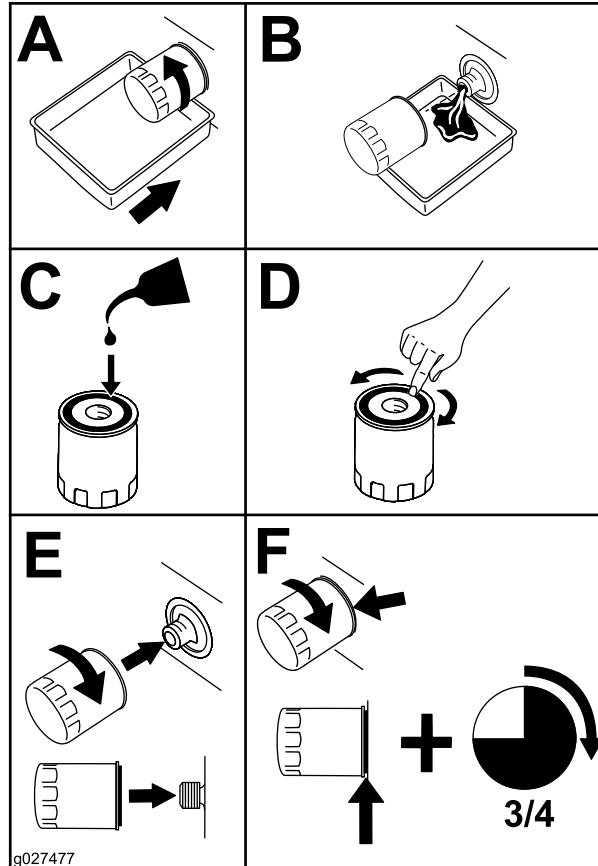

Figure 19
2. Change the engine-oil filter (Figure 19).